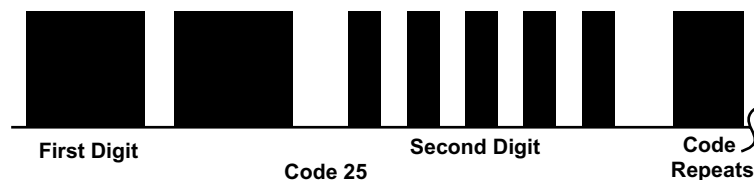

Figure 4-38 Acura ABS Code Type 02
- Type 02, see Figure 4-38 and Table 4-8 on page 32